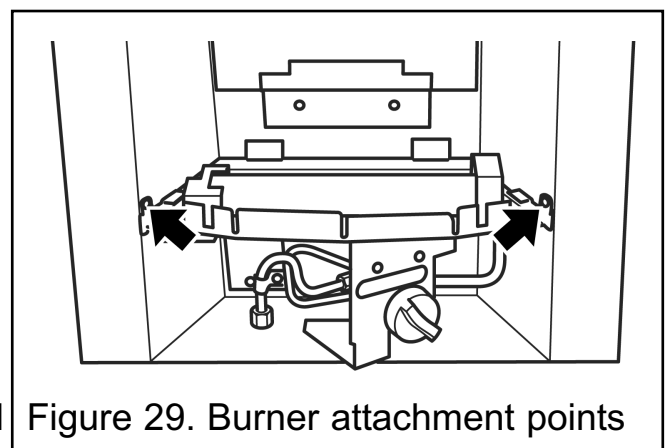

Figure 29. Burner attachment points
4. Detach the burner unit from the hotbox by removing two screws (See figure 29).